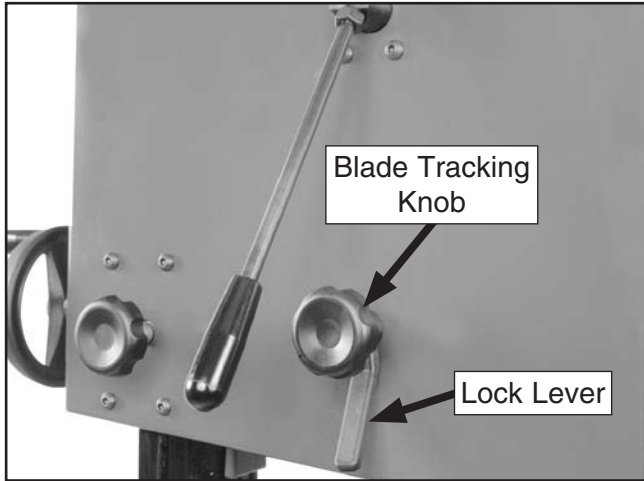

Figure 37. Blade tracking controls.
- Loosen the lock lever on the back of the bandsaw (see **Figure 37**) so that the blade tracking knob can rotate.